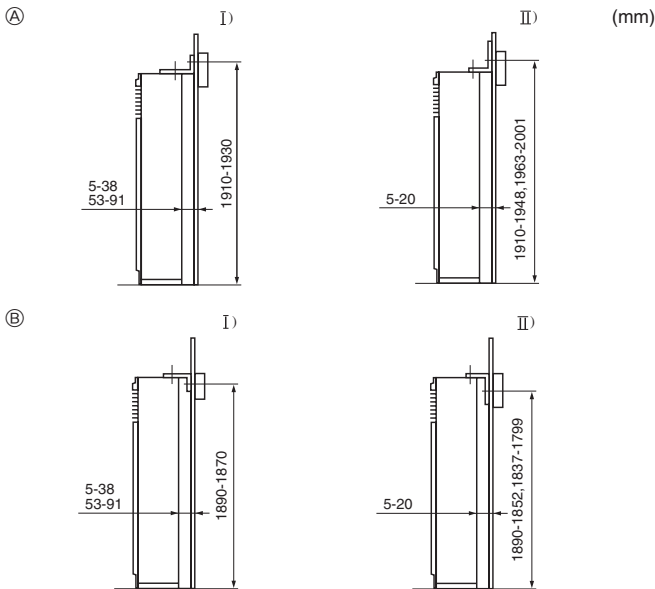

Fig. 3-3
① Tip-over prevention bracket
The tip-over prevention bracket ① is set on the top surface of the unit. Remove the tapping screws ②, and then reinstall the bracket, as shown in the illustration. For the proper installation distances, see Fig. 3-3.
- E Remove the screw ④ and then pull the grill forward to remove it.
3.3. Mounting the tip-over prevention bracket (Fig. 3-3)